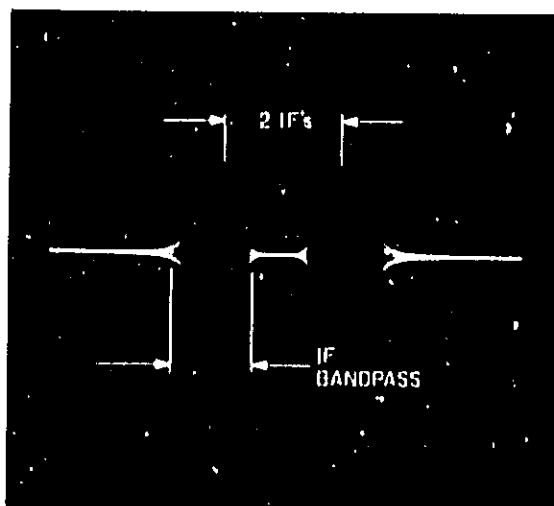

Figure 5-3. Reference Channel IF Bandpass Birdies
- j. Remove oscilloscope connection from W3P1 and reconnect W3P1 to J8. Disconnect 8410B-W1P1 from J7 and connect oscilloscope to W1P1 through a 50 ohm load. The oscilloscope display should be similar to Figure 5-3.